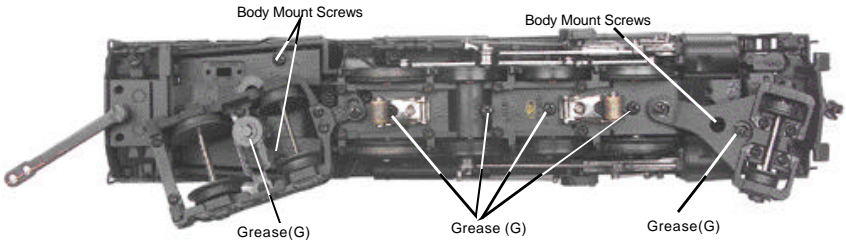
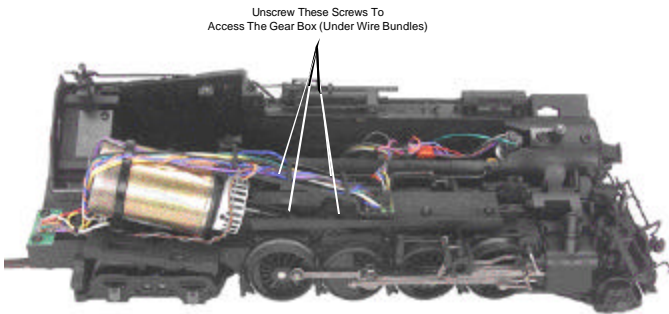

Figure 6: Removing The Body And Lubricating The Grease Points
Figure 7: Motor Gearing Grease Plate Screws
2. Remove the boiler by removing the body mounting screws shown in Fig. 6
3. Remove the Phillips screw (marked “GREASE”) located at each set of wheels (Fig. 6) and the gearbox cover screws (Fig. 7).
You should also grease the leading and trailing locomotive truck tongues to enhance their ability to slide on the chassis. Follow the grease points shown on Fig. 6.
1. Remove the boiler from its chassis as shown in Fig. 6 on pg. 13.
If you experience poor or no smoke output when the smoke unit is on and has fluid, check the wick to see if it has become hard, blackened, and unabsorbent around the heating element. To remove the smoke unit you will first have to remove the boiler shell (by removing the body mounting screws shown in Fig. 6 on pg. 13), board and bracket that block the smoke unit assembly from being accessed. To do this, follow these instructions: